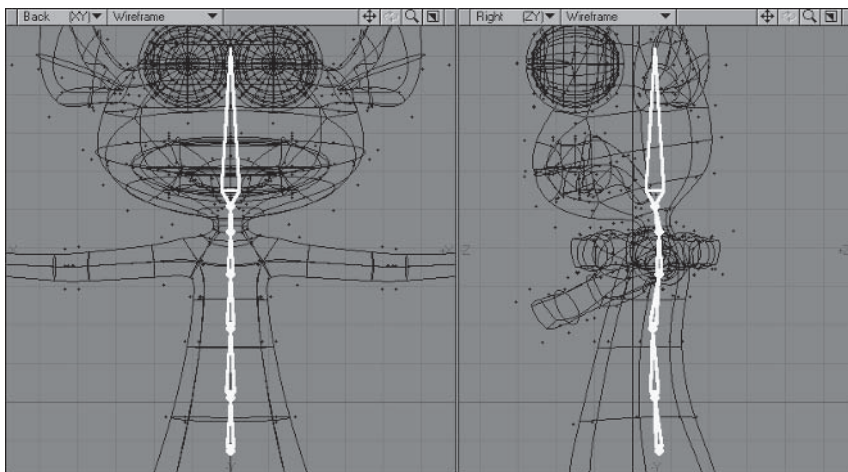

Figure 4.1-2. Instead of moving the skelegons, you could drag the points until all the skelegons are positioned correctly.
- 6. From the Right view, move the chain of skelegons so the base is where the top of the pelvis would be. Deselect the first one and move the others so the base of the second is in place, then deselect the second one and move the others until the base of the third is in place, repeating up the chain until all the skelegons are positioned correctly (see Figure 4.1-2).